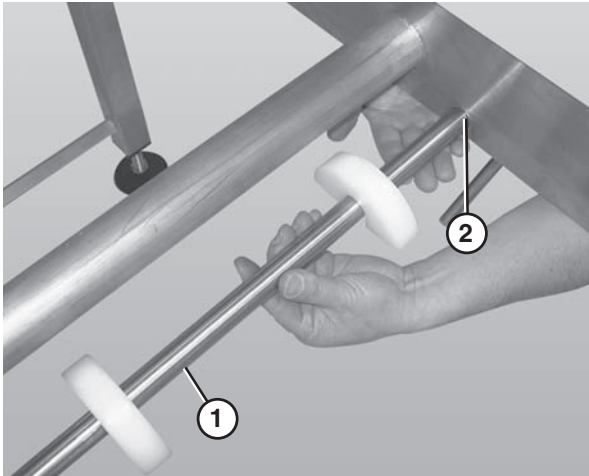

Figure 47
1. Remove the belt returns by pushing up on the return shaft (**Figure 47, item 1**) and sliding it through the large hole (**Figure 47, item 2**) in the frame.
2. Lower the opposite end of the return shaft (**Figure 47, item 1**) and slide it out of the frame.